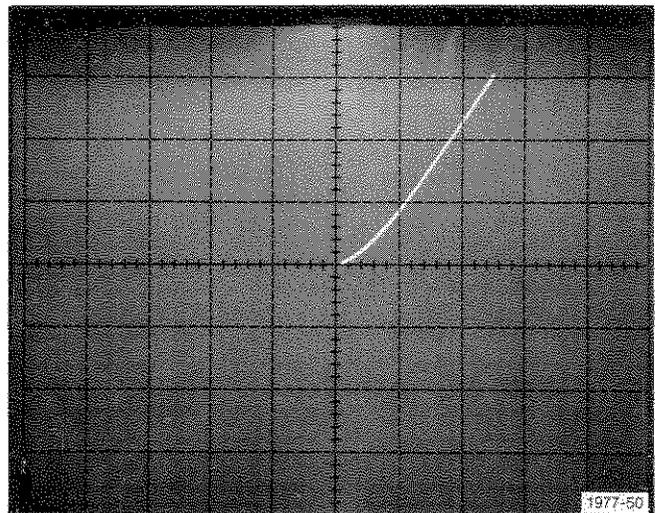

Fig. E-14. Saturation voltage.
b. Check the Saturation Voltage as represented by the crt display. The display should show ≤ 4 horizontal divisions from the display zero reference point (see Fig. E-14).